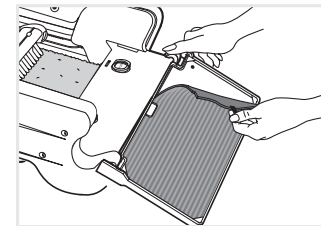

Fig. 9
- Remove mat by gently pulling on fabric strip provided (Fig. 9).